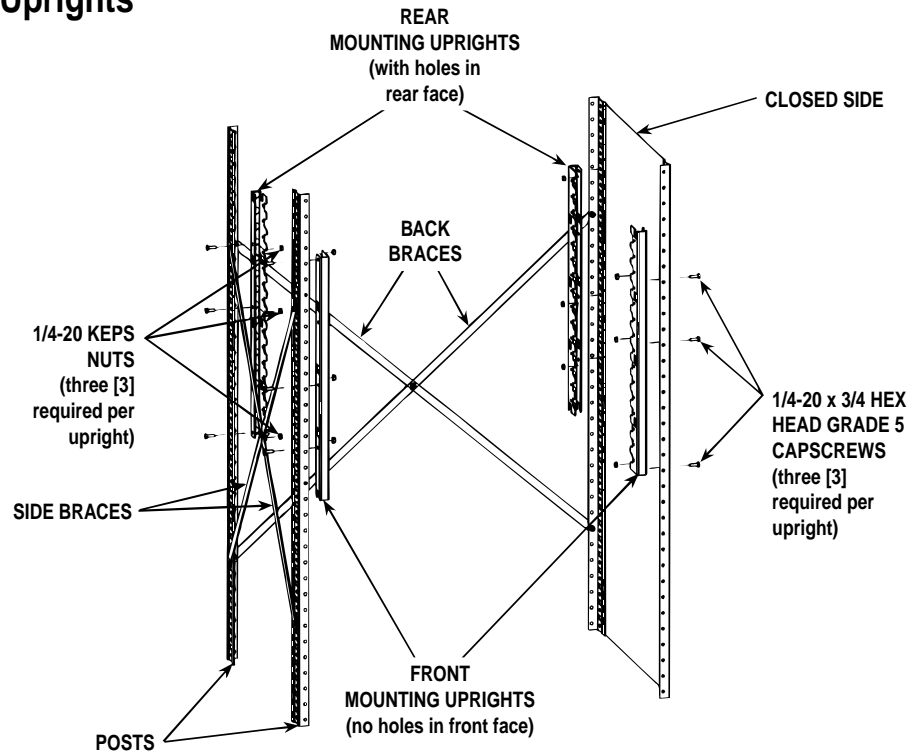

FIGURE 1
1. Mount the front and rear mounting uprights with the notched portion facing the inside of the unit. (See Figure 1)
- Attach the mounting uprights with three (3) 1/4-20 x 3/4 Hex Head Grade 5 Capscrews and 1/4-20 Keps Nuts. Start the screws from the outside of the post then through the mounting upright. (See Figure 1). Proceed to Step 3.